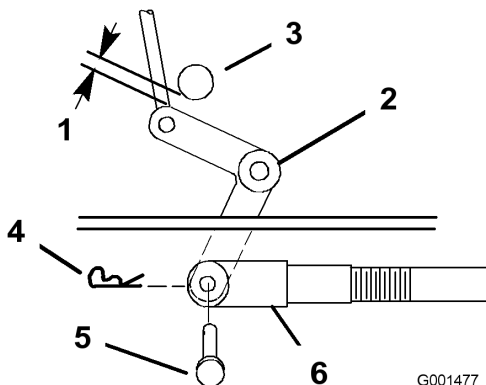
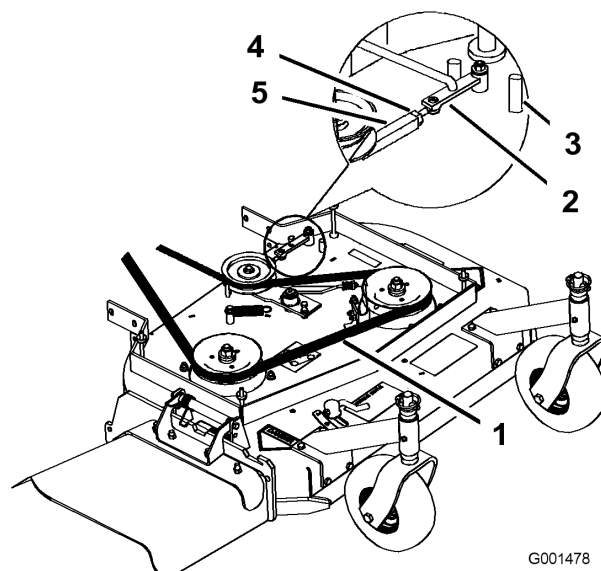

Figure 33
Figure 34
9. Check the clearance between the bell crank and the transmission output shaft (Figure 33).
11. Rotate the clevis clockwise on the rod to increase the clearance; rotate it counterclockwise to decrease it (Figure 33).
Note: If the assist arm does not contact the front stop on the mower deck (Figure 34), adjust the clevis to bring the bell crank closer to the transmission output shaft (Figure 33).
3. Loosen the locknut on the turnbuckle (Figure 34).
4. Rotate the turnbuckle toward the rear of the mower to increase the tension on the belt. Rotate the turnbuckle toward the front of the mower to decrease the tension on the belt (Figure 34).